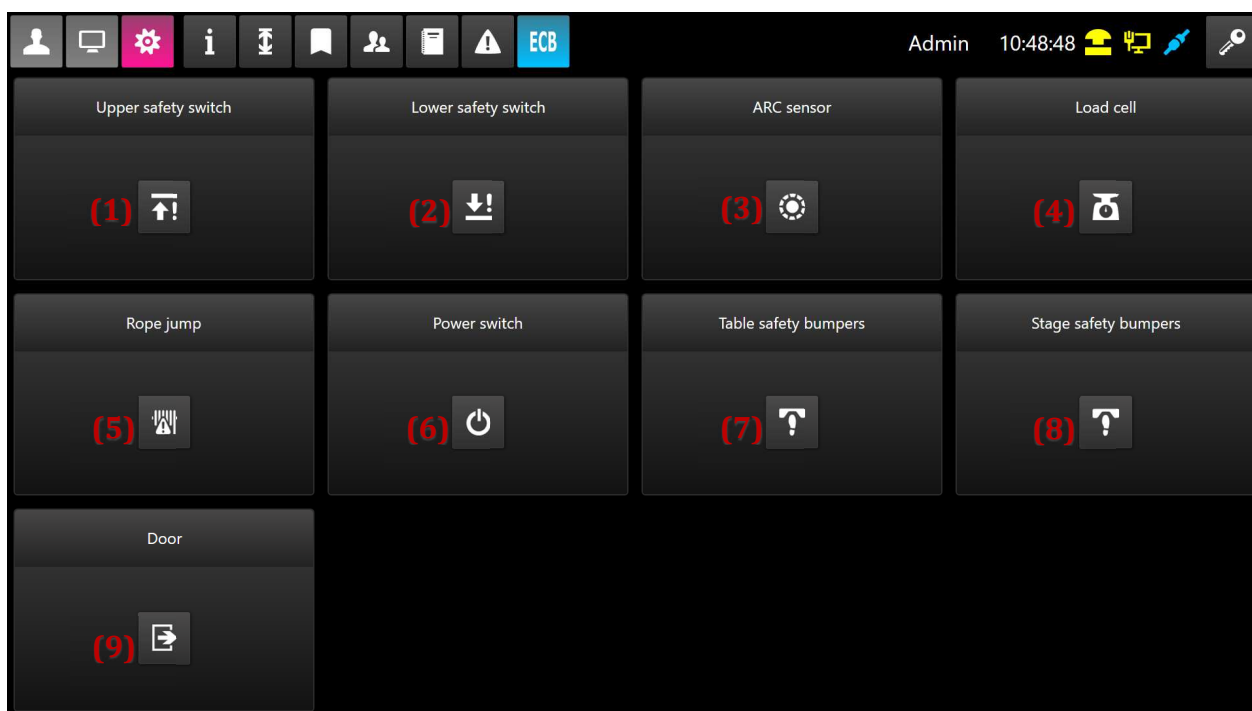

FIG. 62: EMERGENCY CONTROL FUNCTIONS
Then by pressing the button (8) - (Fig. 44) we can switch to the emergency control screen (Fig. 62). For the screen to be visible, the user must have access rights assigned (see Chapter 8.1).
We activate the function as described in chapter 8.2 by pressing the button (1) – Fig. 62.
We activate the function as described in chapter 8.2 by pressing the button (2) – Fig. 62.
We activate the function as described in chapter 8.2 by pressing the button (3) – Fig. 62.
We activate the function as described in chapter 8.2 by pressing the button (4) – Fig. 62.
We activate the function as described in chapter 8.2 by pressing the button (5) – Fig. 62.
We activate the function as described in chapter 8.2 by pressing the button (6) – Fig. 62.
We activate the function as described in chapter 8.2 by pressing the button (7) – Fig. 62.
We activate the function as described in chapter 8.2 by pressing the button (8) – Fig. 62.
We activate the function as described in chapter 8.2 by pressing the button (9) – Fig. 62.